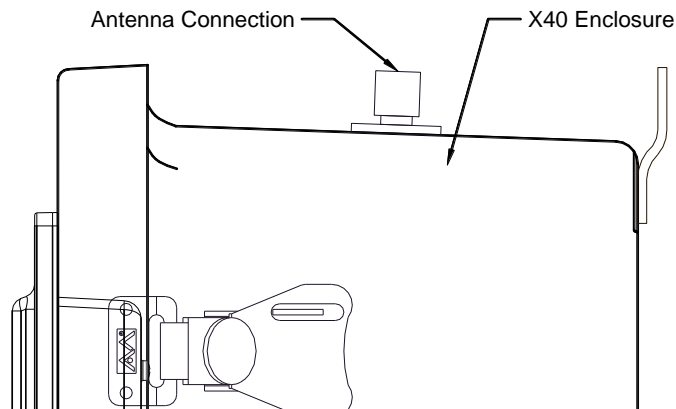

Figure 14 N4X Antenna Connector
9. If the MX40-N4X was ordered with the wireless option, the radio module is installed in the enclosure and an antenna connector is provided on the top of the enclosure (Figure 14). Mount the external antenna in an appropriate location with an unobstructed line-of-sight to the wireless devices. Connect the RF cable from the connector on top of the MX 40 to the antenna.